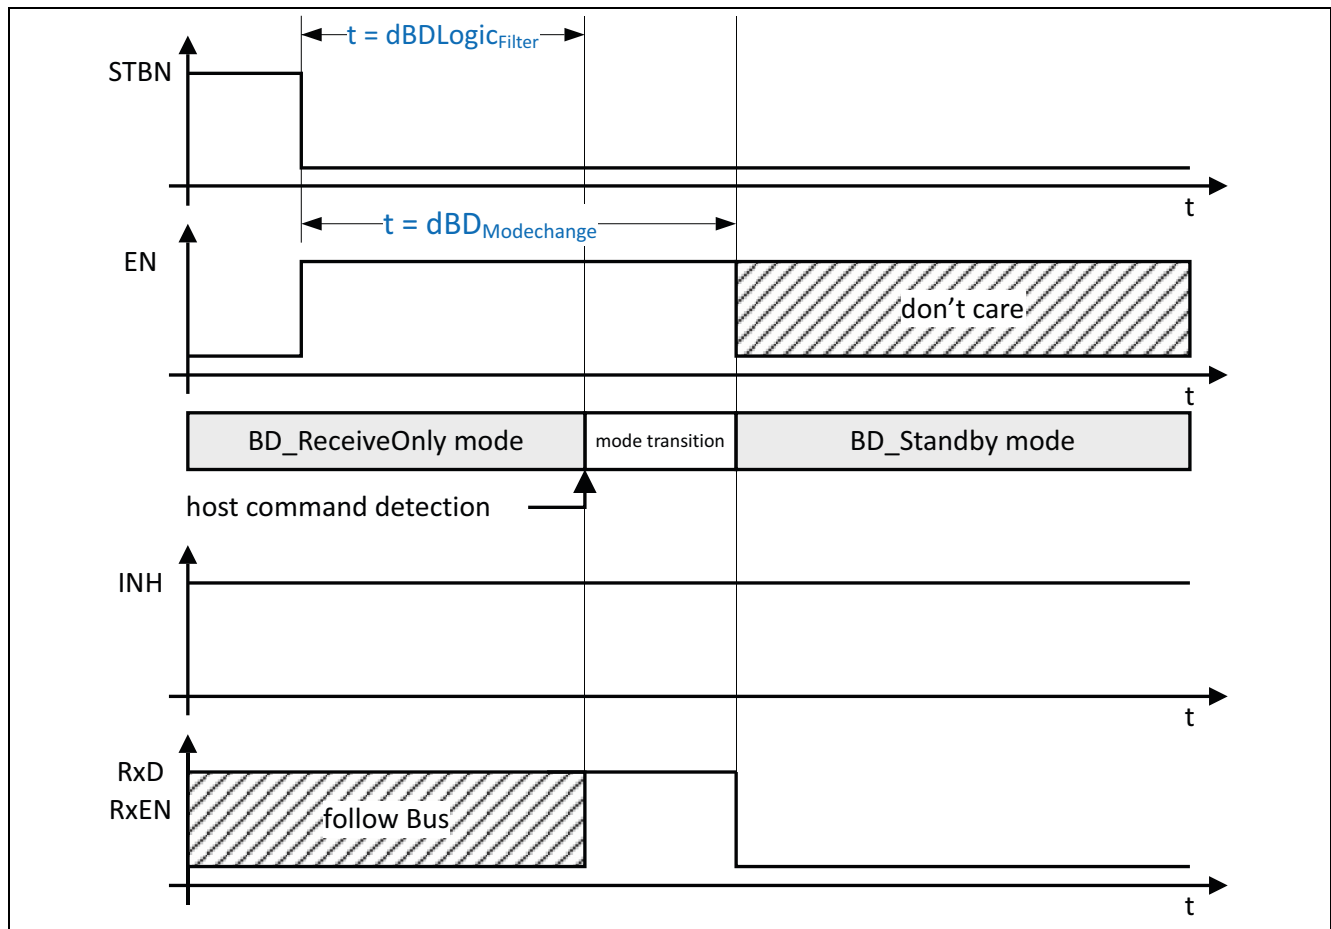

Figure 28 Changing over to BD_Standby, with an active wake-up flag
10) The BD_GoToSleep command cannot be executed while the wake-up flag is active (see Figure 28). The TLE9221SX changes over directly to BD_StandBy mode.
Applying the BD_GoToSleep host command to the TLE9221SX, while the wake-up flag is active, changes the operating mode directly to BD_Standby mode. The RxD and RxEN outputs are set to “low” and indicate a previous wake-up event (see Figure 28 and Table 14).